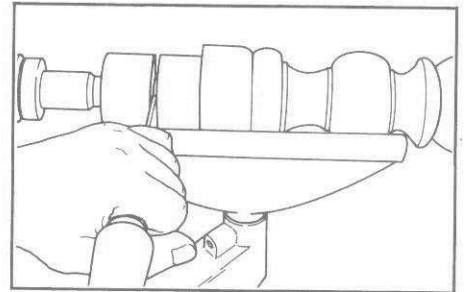

Figure 10. Parting.
6. Parting—Use a parting tool, turned on its edge to scrape away stock from the ends of the spindle. (See Figure 10.) Always leave 1/8 the thickness of the diameter. For example: if the diameter is 2", leave 1/4"; if 3", leave 3/8"; if 4", leave 1/2". Remove the spindle from the lathe and cut off the waste stock.